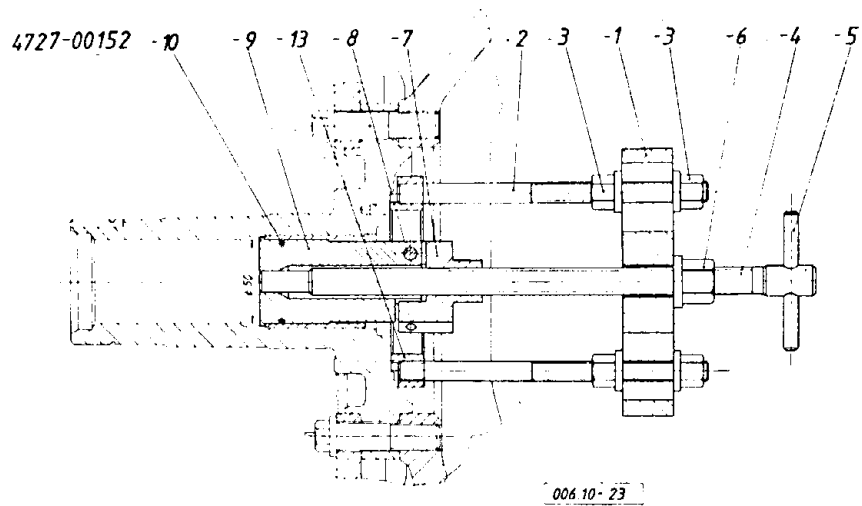

Fig. 1.: PULLING OUT THE BUSHING
By means of the device shown (Fig. 1.) pull the bushing (30) out.